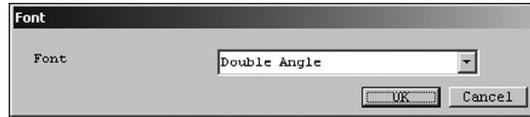

Fig.73
- ① Click the "Setup (S)" menu, and then select and click "Font" from the "LCD" drop-down list.
- ② The following window will be displayed (Fig. 73). Set the size of characters to be used for measurement values displayed on the LCD here.